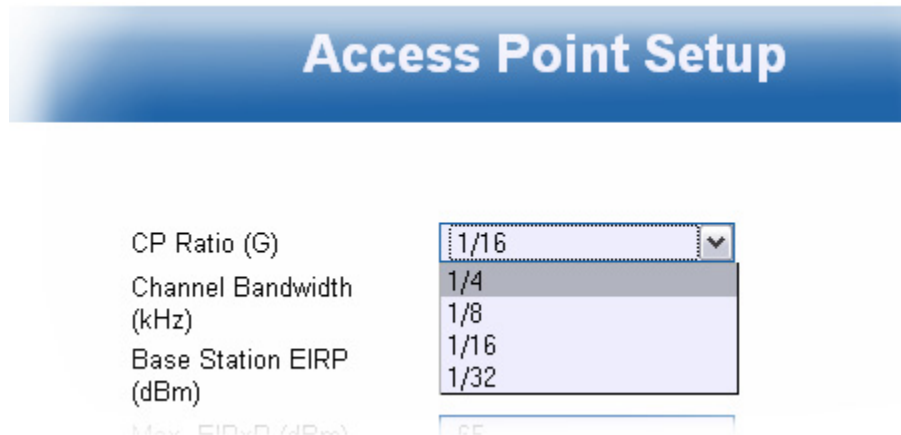

Figure 4-6: CP Ratio (G) options
- 3) Select the desired **CP Ratio (G)** from the dropdown list (Figure 4-6:).